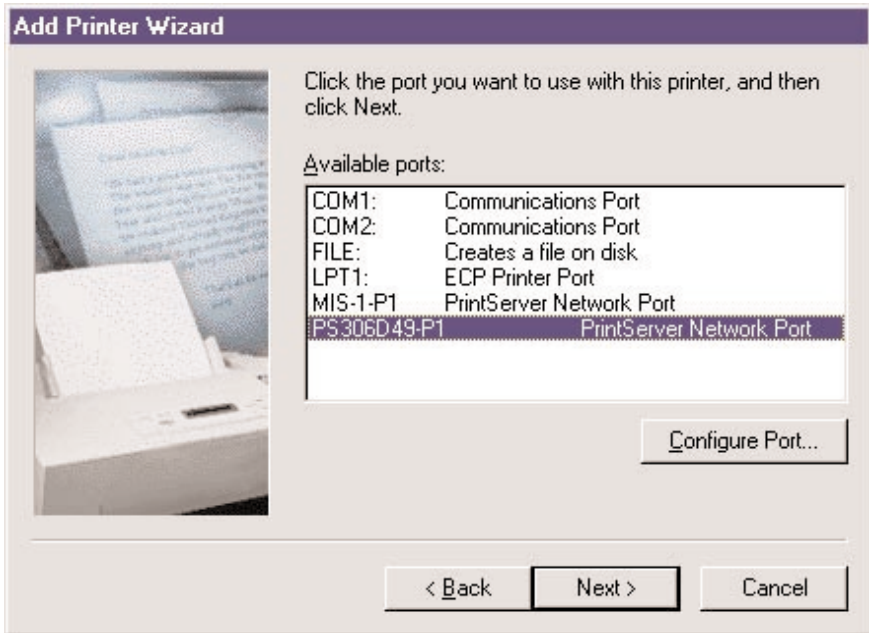

Figure 4-27. Configuring the print server port.
5. If your printer came with an installation disk, click on the **Have Disk** button. The Install prompt will appear, and the system will ask where the disk is located. Type in the disk's location (for example, C:\) and press **Enter**. The drivers will be loaded. Then follow the instructions that appear on your screen. Select the suitable printer manufacturer and model, then click on the **Next** button. Figure 4-27 will appear.
If you don't have an installation disk, simply select the correct manufacturer and printer model from the on-screen lists. Select **Next**; Figure 4-27 will appear.
To connect the print server to a network port, highlight the print server's network port that was created during the Client Installation process (see the Available Ports list in Figure 4-27). Then click on **Configure Port**. A protocol selection screen appears (not shown in this manual). Select the printer port's protocol (either Auto, TCP/IP, IPX, or NetBEUI) and click **OK**. The screen shown in Figure 4-27 will reappear. Click on **Cancel** to cancel your changes, or click on **Next** to go to the next screen.